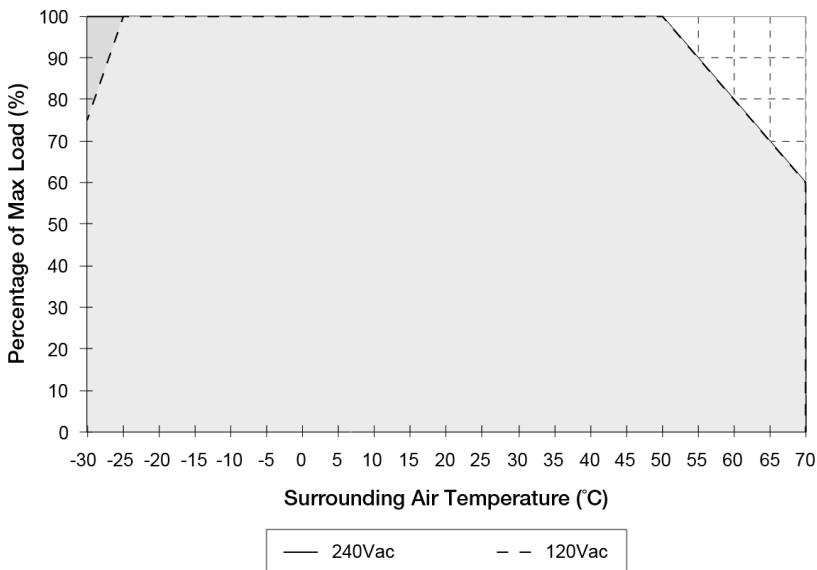

Fig. 1 De-rating for Vertical and Horizontal Mounting Orientation 120Vac
1. Power supply components may degrade, or be damaged, when the power supply is continuously used outside the shaded region, refer to the graph shown in Fig. 1.